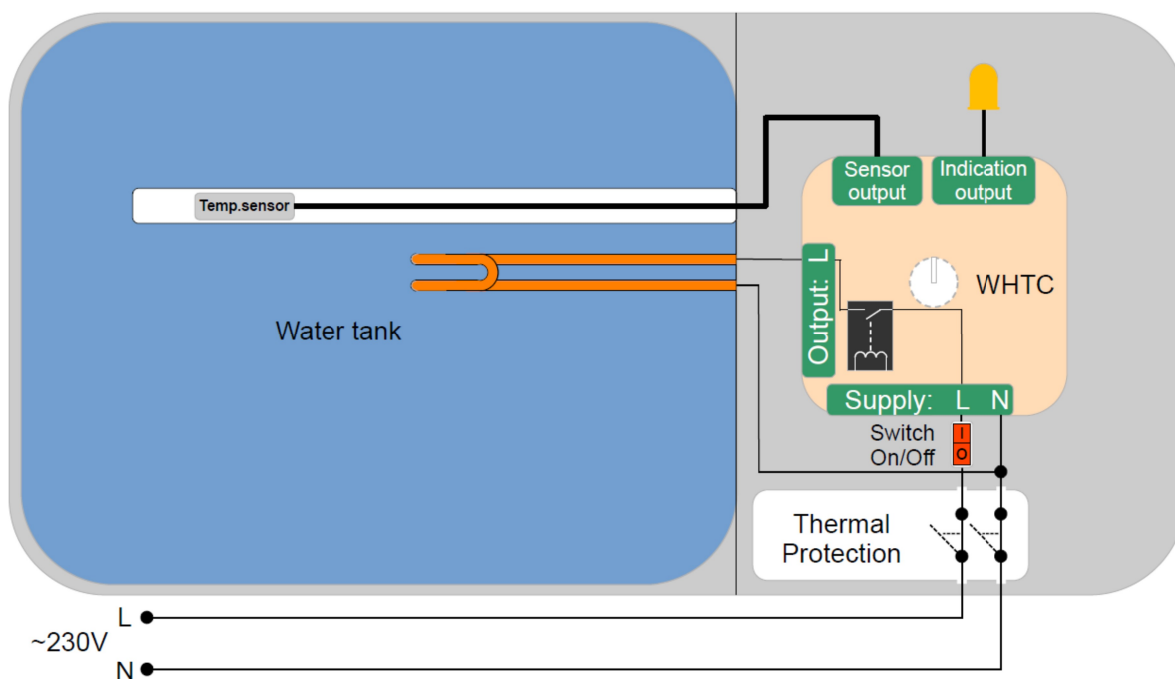

Fig. 7
*The connection is shown in Fig. 7
*The connections are shown in Fig. 7